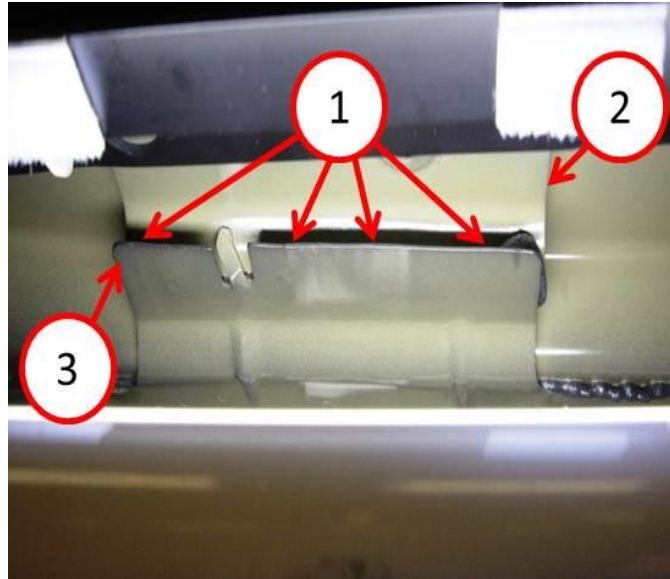

Fig. 1 Area To Apply Sealant
2. Apply a sealant bead between the fixed glass panel reinforcement and the entire length of both the left and right rear quarter panel tabs (Fig. 1).